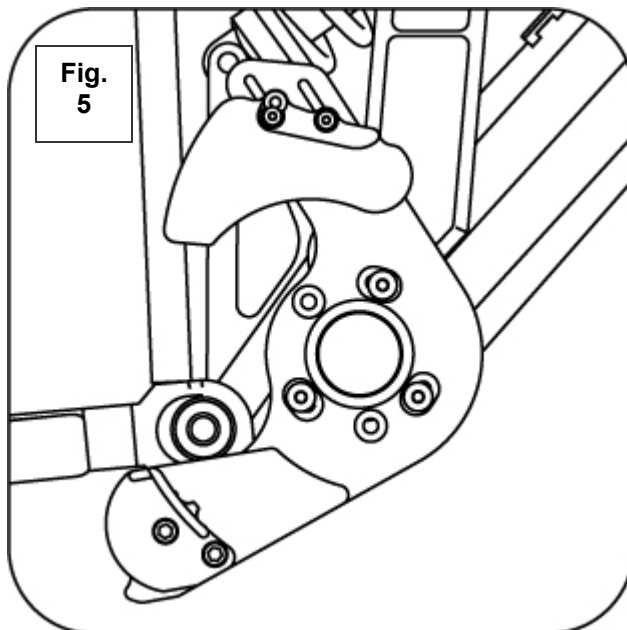

Fig. 5
11) Using the mounting slots, adjust rotation of entire chainguide, so that the chainguide assembly is rotated as far clockwise as needed. See correct rotation in **Fig. 5**.
IMPORTANT NOTE: Always rotate chainguide as far clockwise as possible to reduce possibility of lower idler hitting obstacles. See Fig. 5.